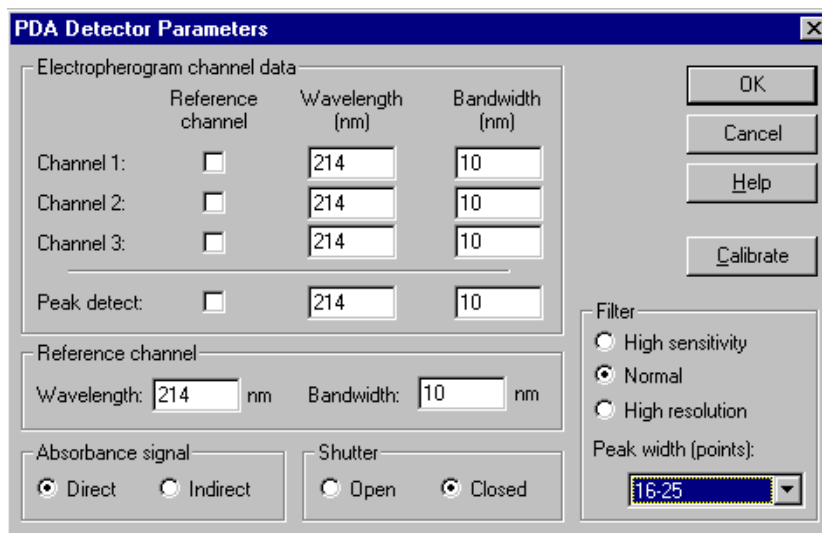

Figure 4.25 PDA Detector Parameters
3. Click on the **Rainbow** above the lamp graphic. The PDA Detector Parameters screen appears as shown in Figure 4.25.